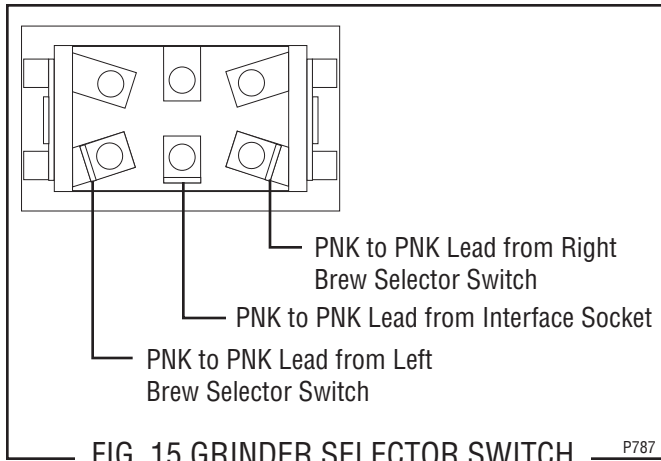

FIG. 15 GRINDER SELECTOR SWITCH TERMINALS P787
11. Refer to Fig. 15 when reconnecting the wires.